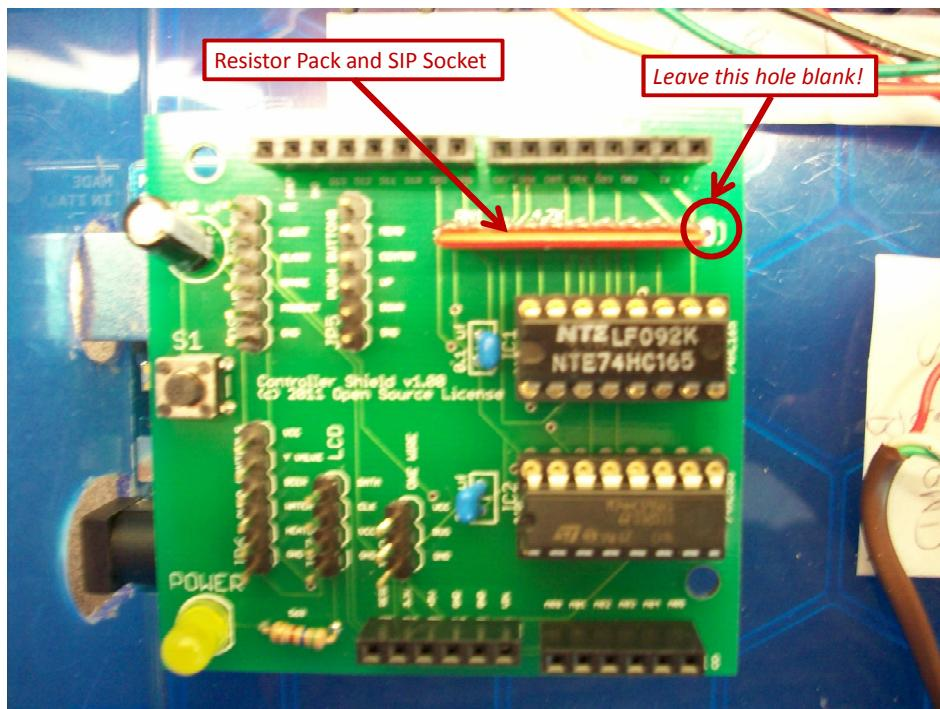

Figure 5-6. Resistor Network and SIP Socket Placement.
- Next, solder the 10 pin single in-line (SIP) connector for the resistor network to the board where it says "RN1". Note again that there are 11 holes for this connector (a bug). You must solder the connector in the ten forward holes starting where pin 1 is marked (see figure 5-6).